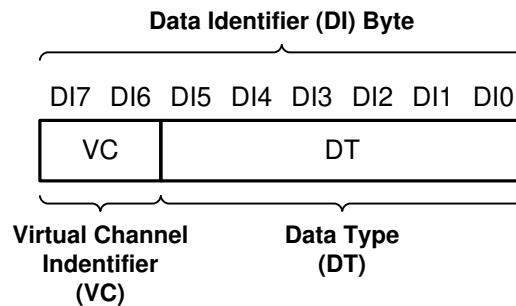

図 7-9. CSI-2 Data Identifier Structure
The TDES960 MIPI CSI-2 protocol interface transmits the data identifier byte containing the values for the virtual channel ID (VC) and data type (DT) for the application specific payload data, as shown in 図 7-9. The virtual channel ID is contained in the 2 MSBs of the data identifier byte and identify the data as directed to one of four virtual channels. The value of the data type is contained in the 6 LSBs of the data identifier byte. When partnered with the Tser953 serializer, the Data Type is passed through from the received CSI-2 packets. When partnered with a DVP Mode serializer, the received RAW mode data is converted to CSI-2 Tx packets with assigned data type and virtual channel ID.